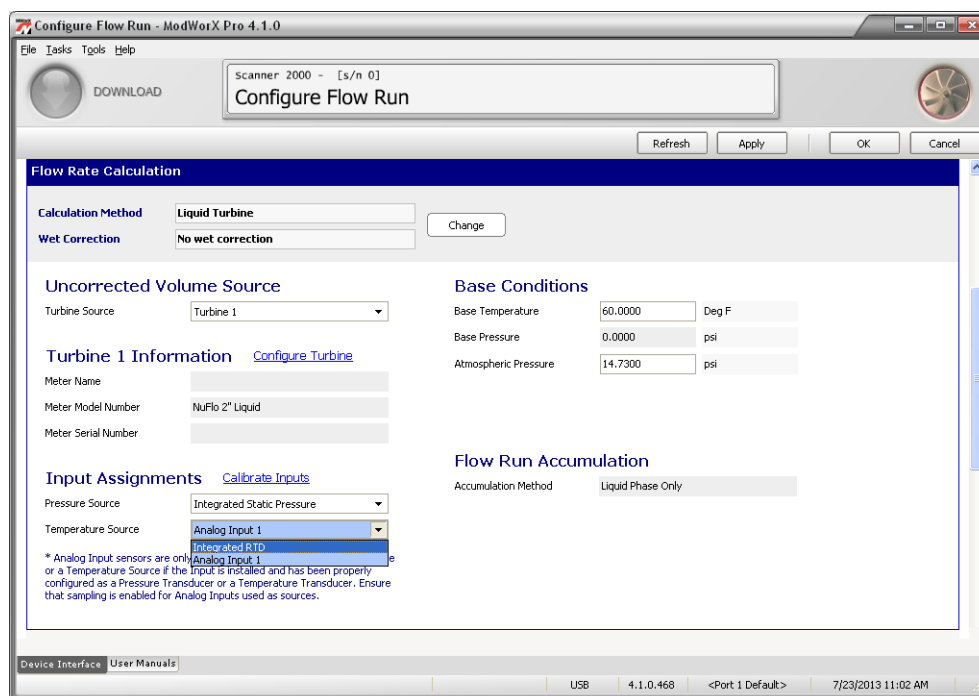

Figure 4.12
3. Under Input Assignments, verify the pressure source and/or temperature source to be used. If measuring liquids, only a temperature source will be selectable (Figure 4.12, page 63). To calibrate the sensor inputs from this screen, click on the blue **Calibrate Inputs** hyperlink and follow the screen prompts.